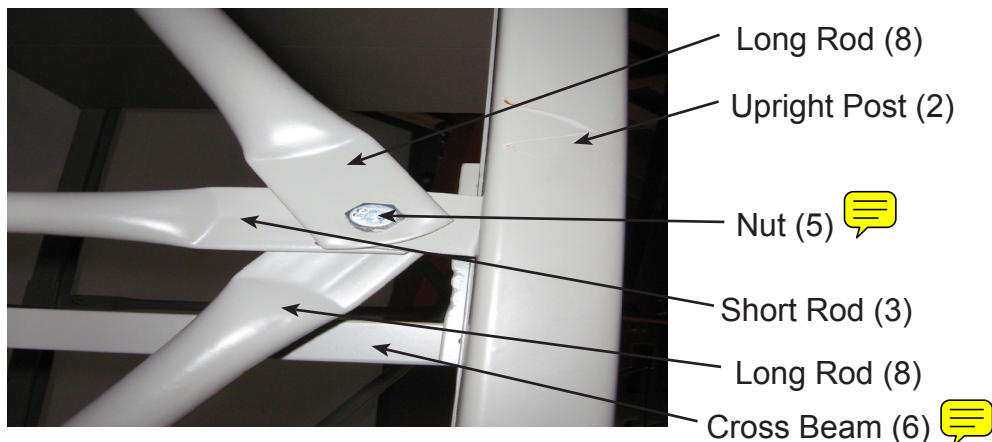

Figure 1
- Assemble two of the Upright Posts (2) using three of the horizontal Short Rods (3), and two of the Long Rods (8). Use six Bolts (1), twelve Flat Washers (4),
one on each side, and six Nuts (5). Hand tighten the Nuts (5) initially (see **Figures 1 and 2**).
4. Using two persons, stand up the two Upright Post assemblies in position and attach one Cross Beam (6) into the second Slot from the bottom of the two Upright Posts. These Cross Beams (6) have two metal Tabs on each end which slip into the Slots of the Upright Posts (2). Make sure the Flange on the Cross Beam (6) is facing up. This Flange will hold the Steel Shelves (7) in place (See Figure 1).
5. Repeat step 4 with a Cross Beam (6) on opposite side of Upright Post assembly.
6. Only one person is needed to finish the assembly. Continue to attach Cross Beams (6) (Flanges pointing upward) at desired heights. The Cross Beams (6) on the top level must be positioned at the top Slot of the Upright Posts (2). Make sure each Cross Beam (6) is located in same Slots as the Cross Beam directly opposite its height on the Upright Post (2). This is to ensure that when the shelves are inserted, they will lay flat.
7. Use a rubber mallet (not supplied) to drive the Wedge at both edges of the Cross Beams (6) into the Slots on the Upright Posts (2) as deep as possible. Strike the Cross Beam (6) with the mallet as close to the Upright Post (2) as you can.